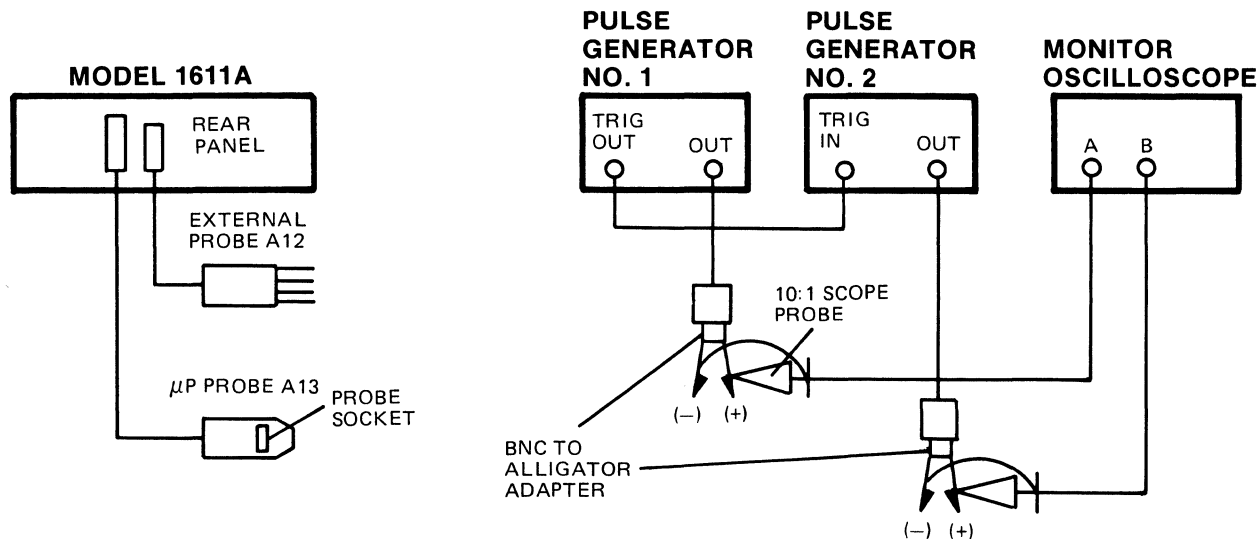

Figure 4-4. Wait, HLDA, and Inte Test Setup
- a. Connect test equipment as shown in figure 4-4.